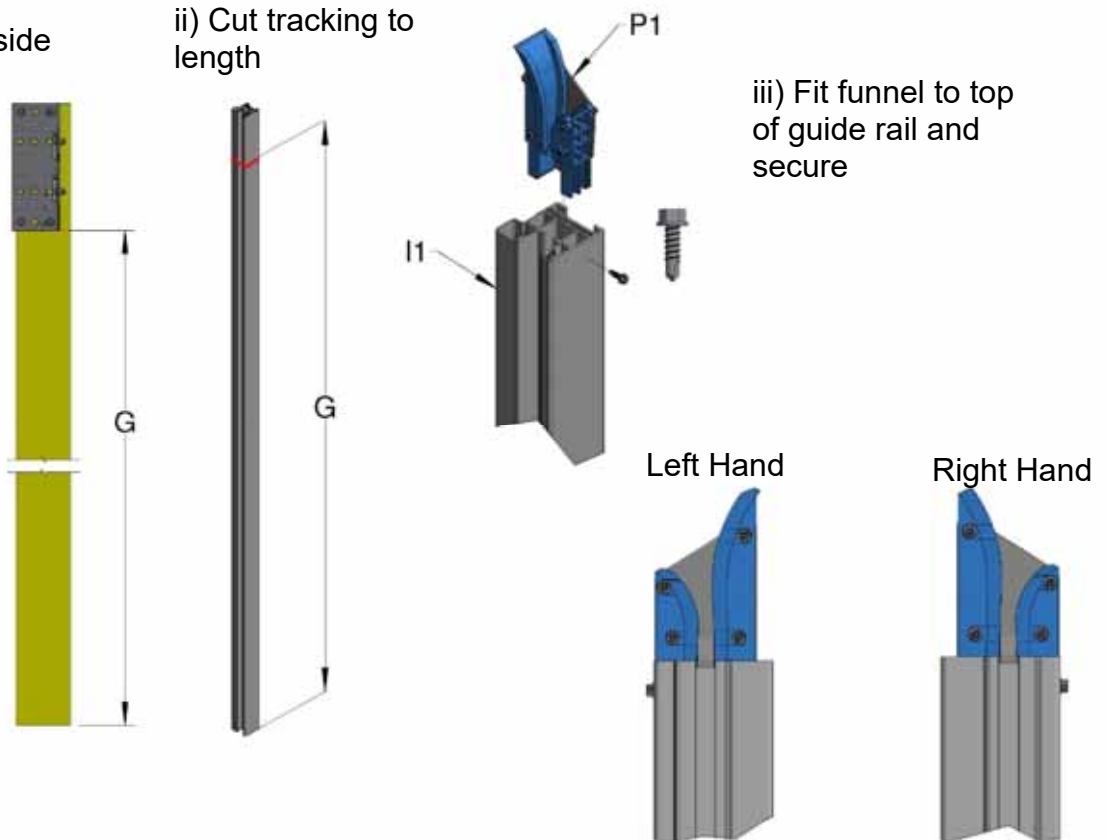

Figure 13a, Tracking and Funnel Assembly
9. Equally cut the aluminium tracks (I1) to fill the gap between the underside of the top brackets and the ground. Remove all sharp edges for the end of the tracks. Fit the pair of funnels P1 and P2 into the top of the tracks and secure with the M5x19 self drill screw in the front face, Figure 13a.